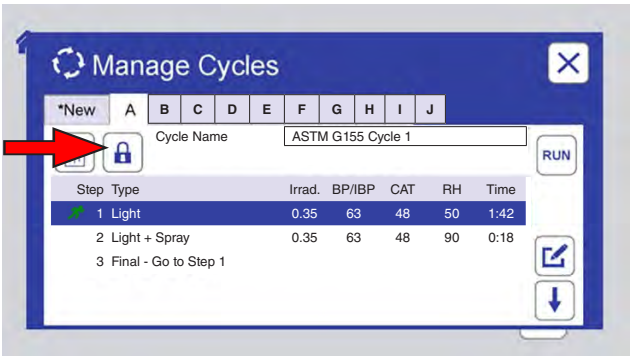
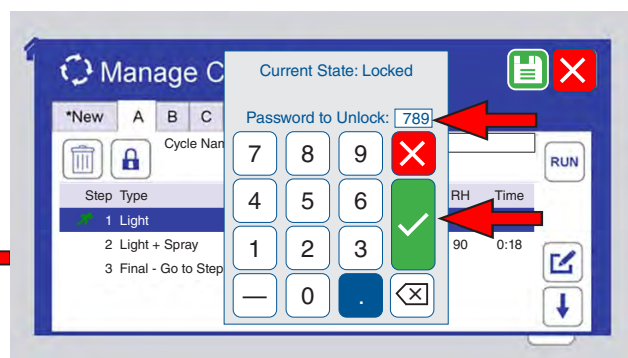

Figure 11.6.3a: Touch the lock icon to lock the cycle.
Figure 11.6.3e: To unlock a cycle, touch the lock icon, enter the password, then touch the check mark button.
- Lock a cycle to prevent unauthorized changes (Figure 11.6.3a through Figure 11.6.3e).